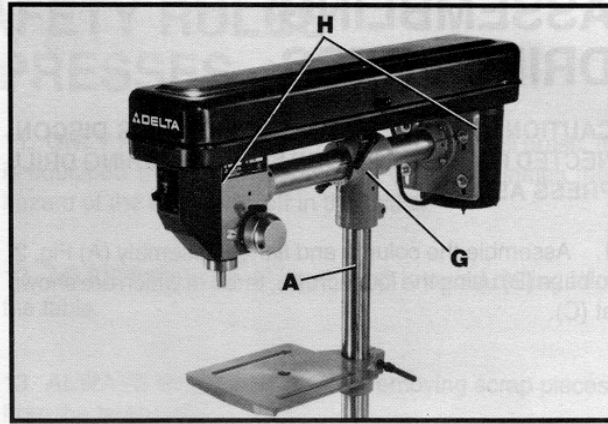

Fig. 5
4. Slide T-bracket (G) Fig. 5, with head assembly (H) onto top of column (A), as shown.